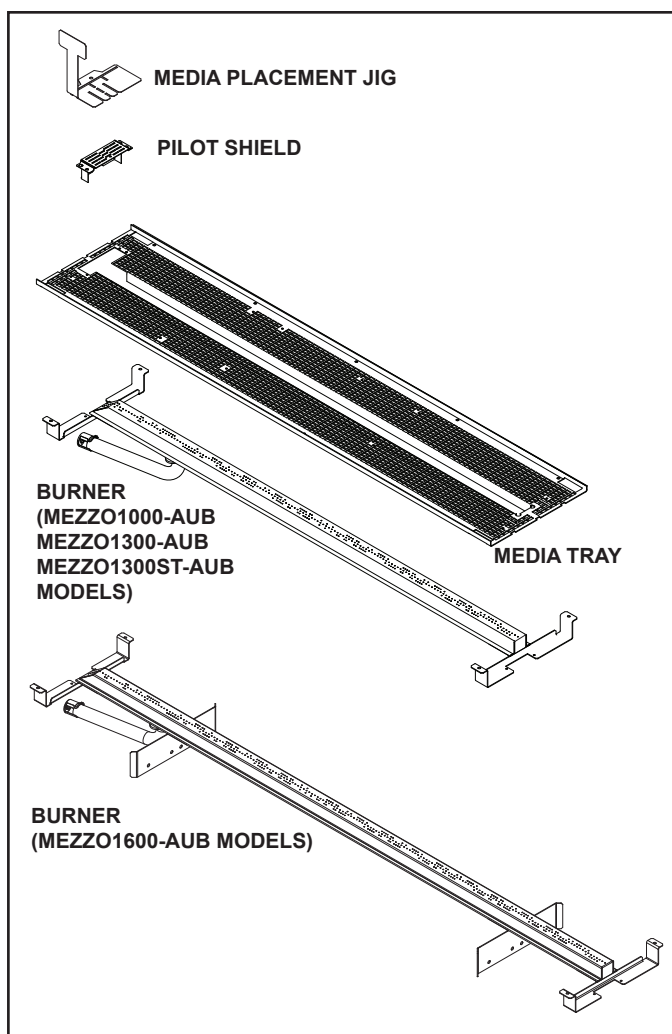

Figure 9.3. Media Tray with Burner and Pilot Shield
7. Remove the media tray. It is attached to the interior firebox bottom with ten screws. See Figure 9.3.
9. Remove the four screws securing the burner to the firebox sides and disengage burner from orifice. Remove burner. See Figure 9.3.